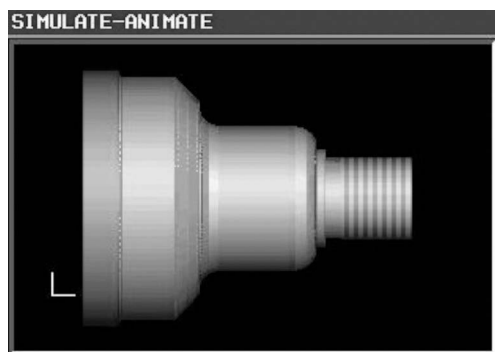

Figure 7-36 Finished Turning
50. SIMULATE the toolpath to confirm correctness (Figure 7-36).